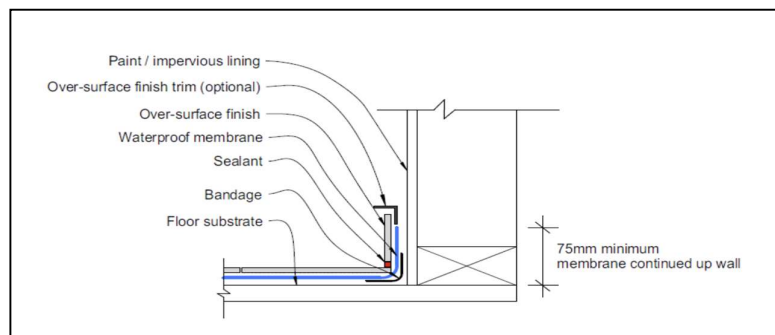

Figure 21: Waterproof membrane system behind skirting
- ✓ Figure 21: Waterproof membrane system behind skirting – up to 75mm